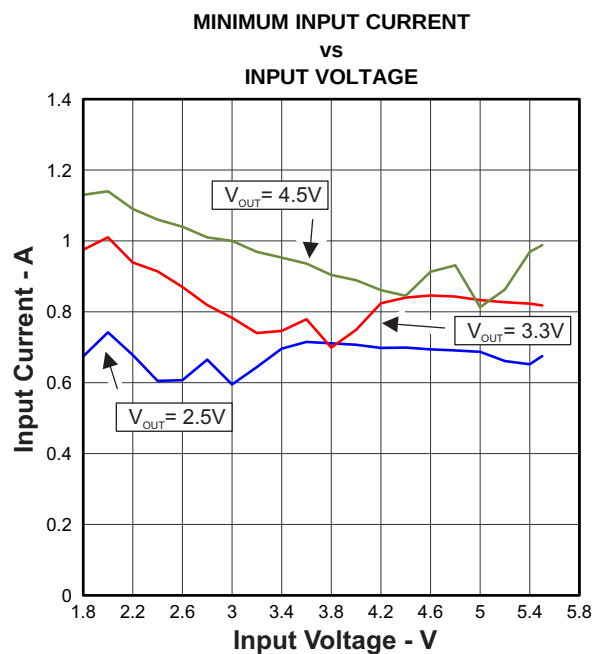

Figure 3.
(1) The typical required supply voltage for startup is 2V. The part is functional down to 1.8V.
(2) For the minimum specified average input current limit at V_{OUT} = 2.5V, 3.3V and 4.5V refer to curve in Figure 3. For the maximum specified average input current limit at V_{OUT} = 2.5V, 3.3V and 4.5V refer to curve in Figure 4.
To protect the device and the application, the average input current is limited internally on the IC. At nominal operating conditions, this current limit is constant. The current limit value can be found in the electrical characteristics table. The current limit varies depending on the input voltage. A curve of the input current varying with the input voltage is shown in figure 3 and figure 4 respectively showing the minimum and the maximum current limit expected depending on input and output voltage.
Given the average input current in figure 3 is then possible to calculate the output current reached in boost mode using Equation 1 and Equation 2 and in buck mode using Equation 3 and Equation 4.
I_{SW} = Minimum average input current (Figure 3)